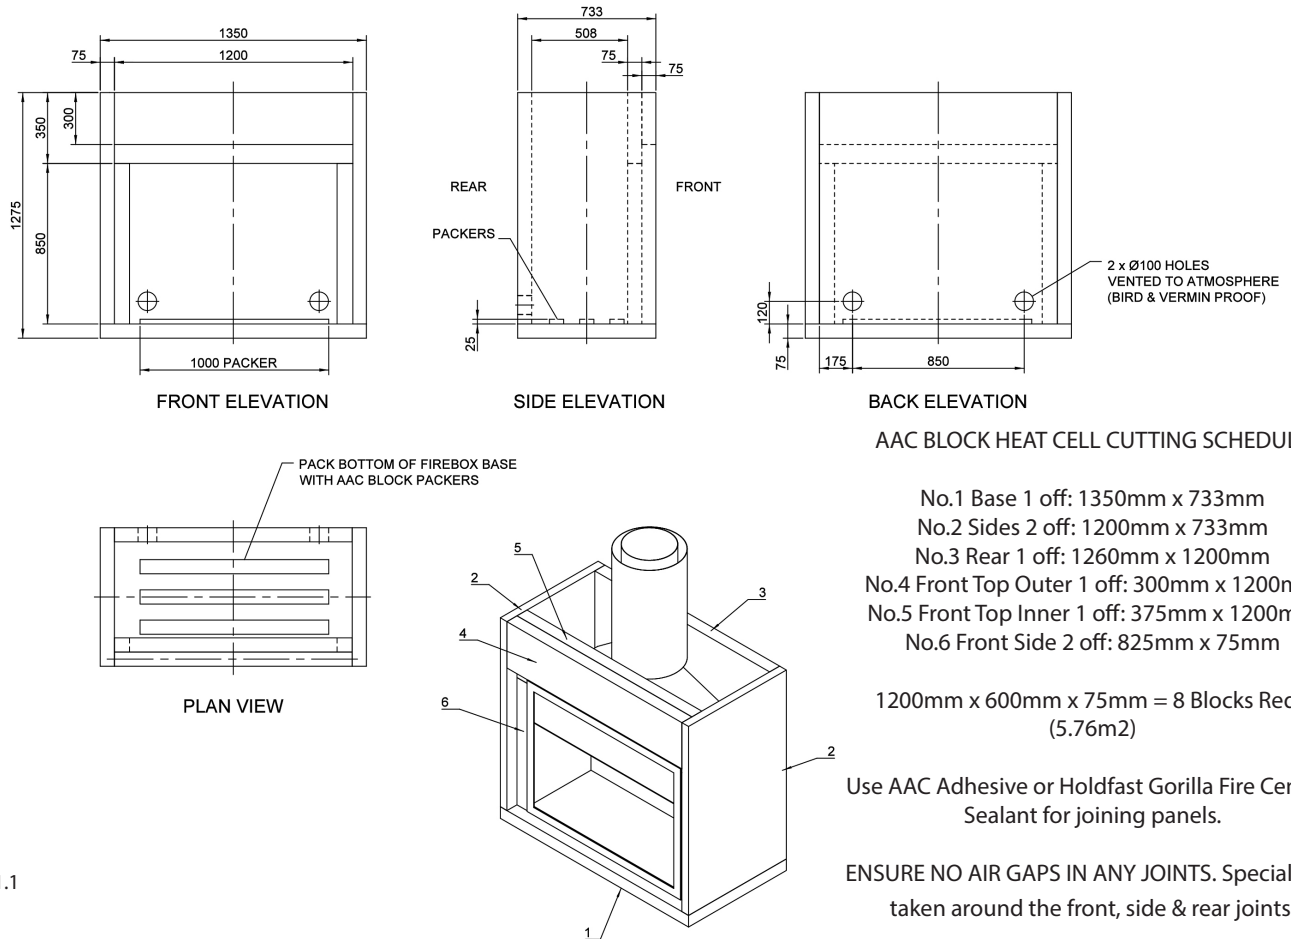

Fig 1.1
The AAC Block Heat Cell shown in Fig 1.1 is constructed from 75mm (centrally reinforced) AAC Block panels and is a stand alone construction required within a false timber framed chimney chase incorporating a flue system.
The AAC Block Heat Cell may be substituted with 150 or 200 series Masonry blocks or similar, provided the internal dimensions and details of the heat cell are the same as those shown in Fig 1.1
1. The Quadro MUST be installed so that it is positioned inside a AAC Block Heat Cell as per Fig 1.1